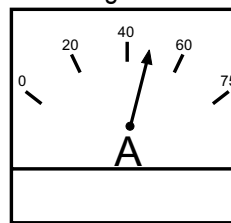

Figure 59. Ammeter (Load)
17. Observe the generator's ammeter (Figure 59) and verify that it reads the anticipated amount of current with respect to the load. Remember the ammeter will only display a current reading if the load is in use.